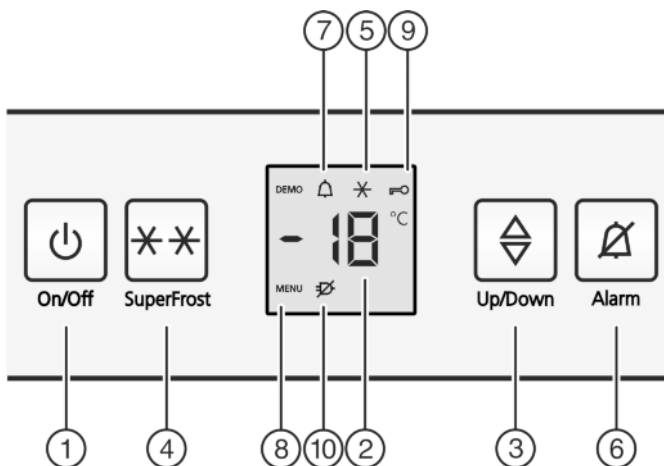

Fig. 2
- ▶ Press the On/Off button *Fig. 2 (1)*.
- ▷ The appliance is switched on. The temperature display and Alarm symbol *Fig. 2 (7)* flash until the temperature is cold enough.
- ▶ Activate setting mode: press the SuperFrost button *Fig. 2 (4)* for approx. 5 seconds.
- ▷ The Menu symbol *Fig. 2 (8)* is shown on the display.
- ▶ Briefly confirm with the SuperFrost button, *Fig. 2 (4)*.
- ▷ The child lock symbol *Fig. 2 (9)*, lights up on the display.
- ▶ Briefly press the On/Off button *Fig. 2 (1)*.
- ▷ The child lock symbol *Fig. 2 (9)* goes out.
- ▶ Press alarm button *Fig. 2 (6)*.
The temperature display and the alarm symbol *Fig. 2 (7)* flash at the same time.
The audible alarm is automatically silenced, the alarm symbol *Fig. 2 (7)* goes out and the temperature display stops flashing when the temperature is sufficiently cold again.